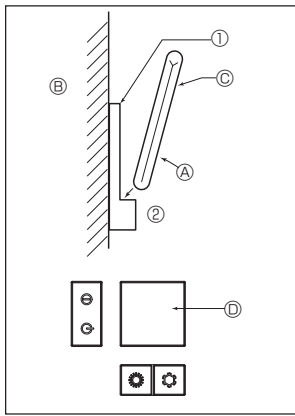
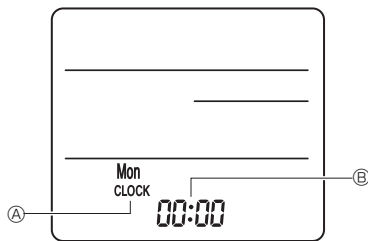

Fig. 7-7
Fig. 7-8
2) Installation method (Fig. 7-7)
- ① Attach the remote controller holder to the desired location using 2 tapping screws.
- ② Place the lower end of the controller into the holder.
3) Setting (Clock setting) (Fig. 7-8)
- ① Insert batteries or press the **CLOCK** button with something sharp. [CLOCK] Ⓐ and [.] Ⓑ blinks.
- ② Press the **RESET** button with something sharp.
- ③ Press the **▲** button to set the time. Press the **DAY** button to set the Day.
- ④ Press the **CLOCK** button with something sharp at the end. [CLOCK] and [.] lighted.